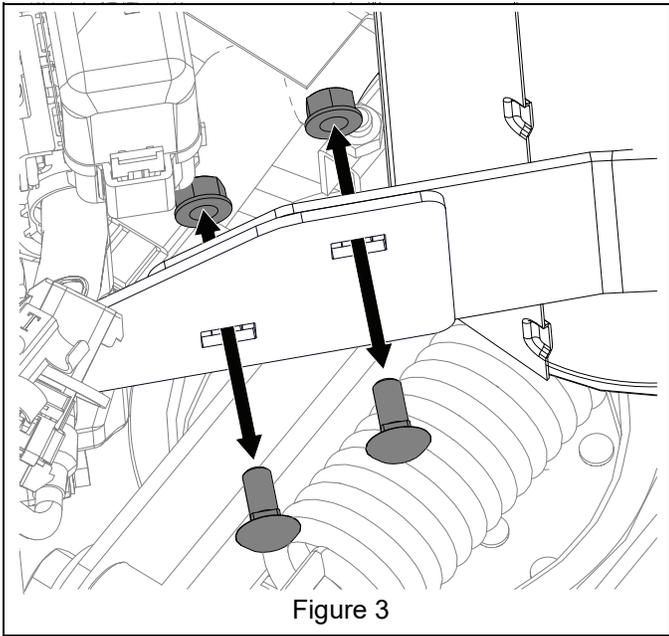

Figure 3
4. *Pro-Stance Models Only:* Remove two 5/16" x 3/4" round head square neck bolts and two center lock flange nuts securing muffler bracket to support bracket. Retain nuts and bolts for use without OCDB kit. See Figure 3.